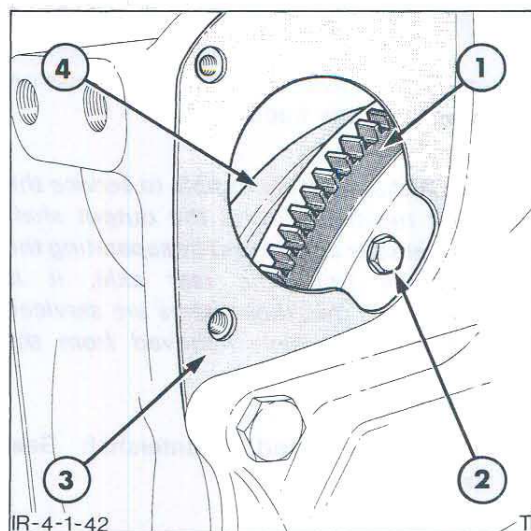

Figure 48
4. Working through the starting motor aperture, Figure 48, install the attaching bolts and washers finger tight. Rotate the flywheel as required until all eight bolts and washers are installed.